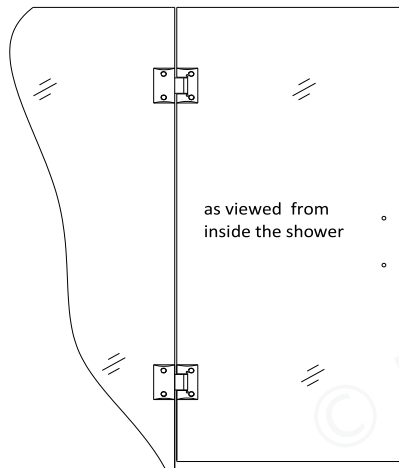

Figure 1
1. Make sure the door glass is plumb and the edge of the hinge is installed flush with the glass edge. Tighten the faceplate screws. (Figure 1)